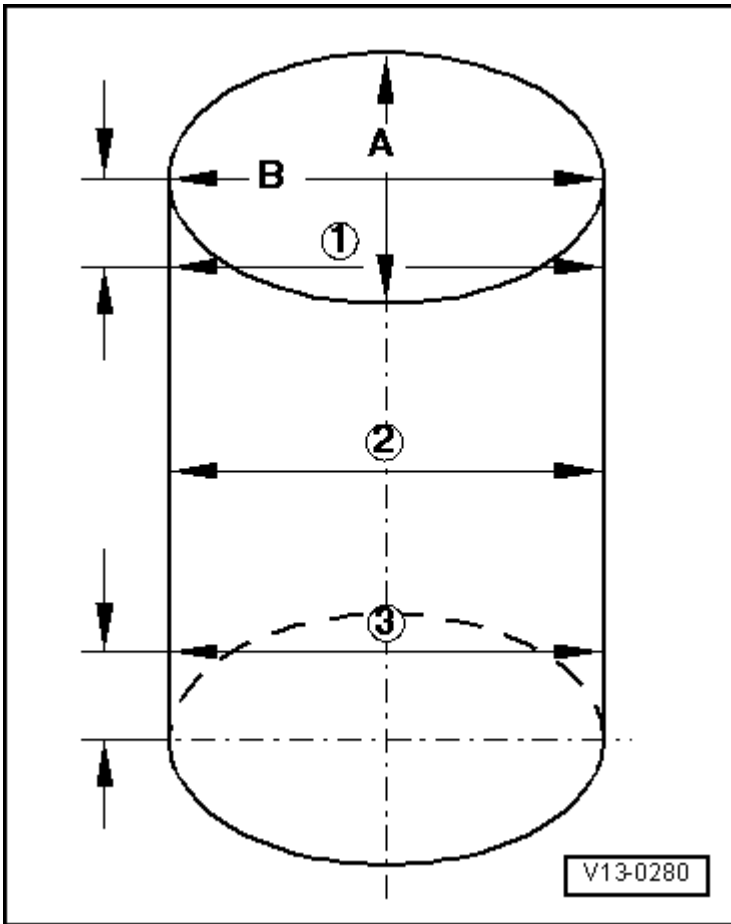

Fig. 15: Identifying Check Of Cylinder Bores
- Checking, cylinder bore. Refer to **Fig. 15**.